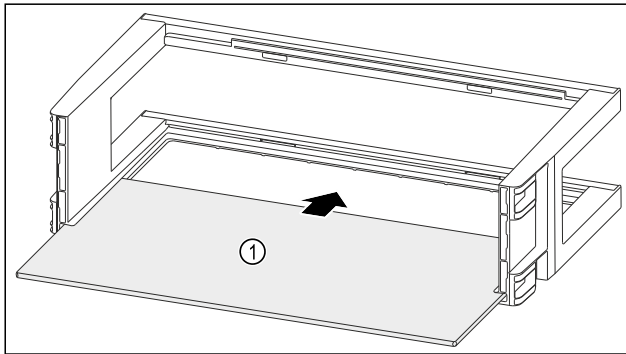

Fig. 143
- ▶ Push the shelf Fig. 143 (1) into the side recesses.